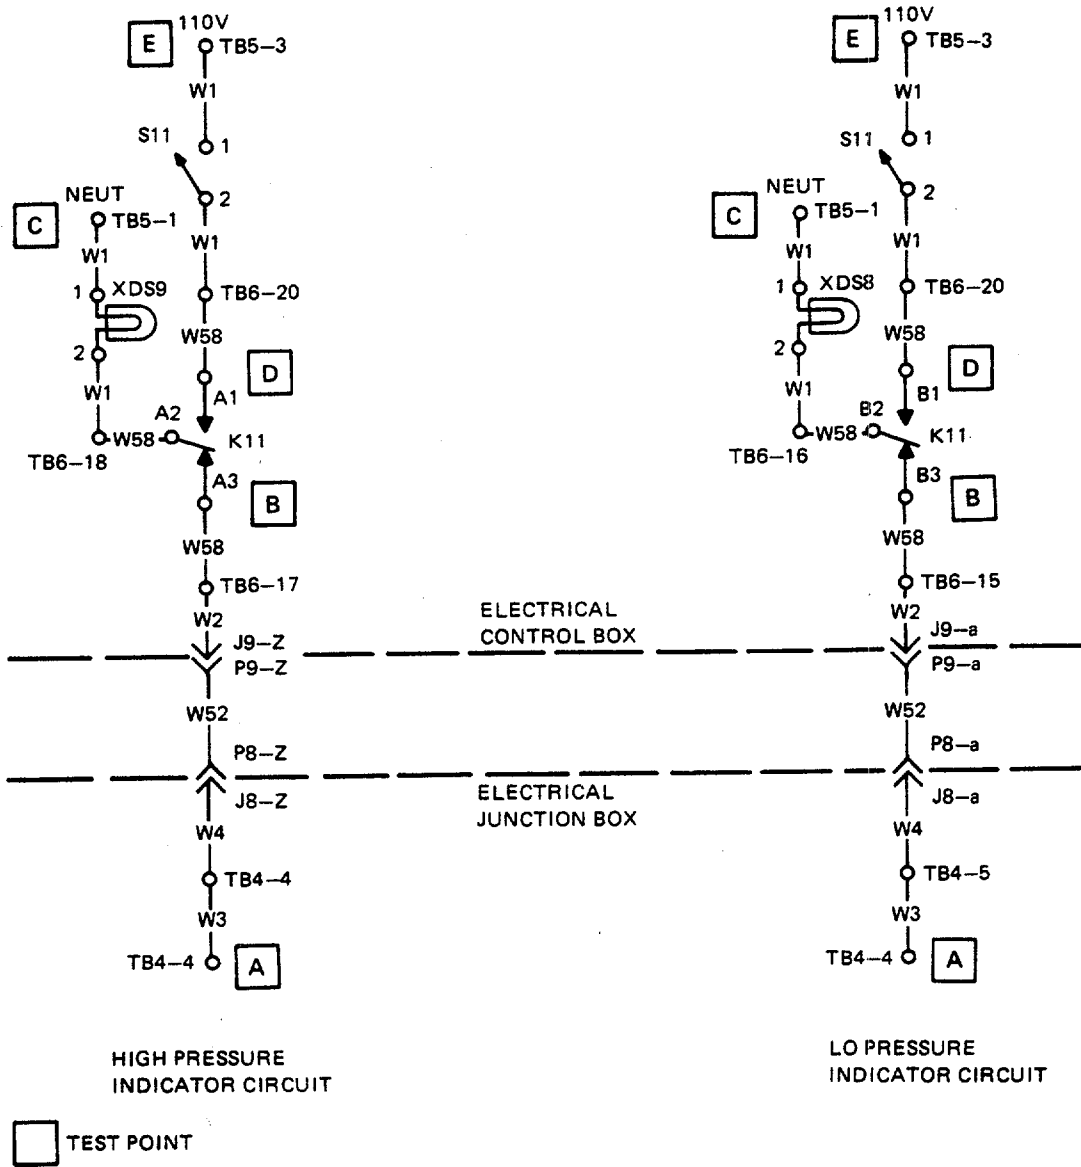

Figure 3-7. Pressure Indicator Circuit Support Diagram
Refer to figure 3-7 for pressure indicator circuit support diagram.
Step 2. Refer to appropriate detail of support diagram figure 3-7. Check continuity point-to-point between test points A and B.
Step 3. Refer to appropriate detail of support diagram figure 3-7. Check continuity point-to-point between test points B and C.